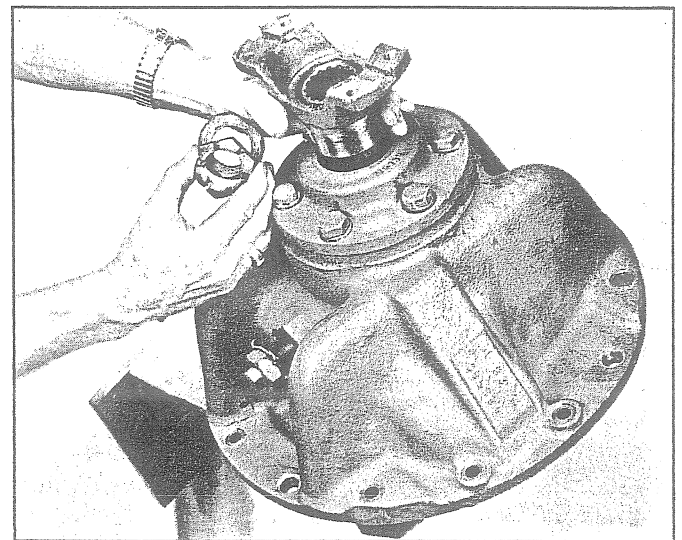

Fig. 50 - Removing Companion Flange
6. Remove nut, washer and companion flange as shown in Fig. 50. It may be necessary to use a puller to remove the companion flange.